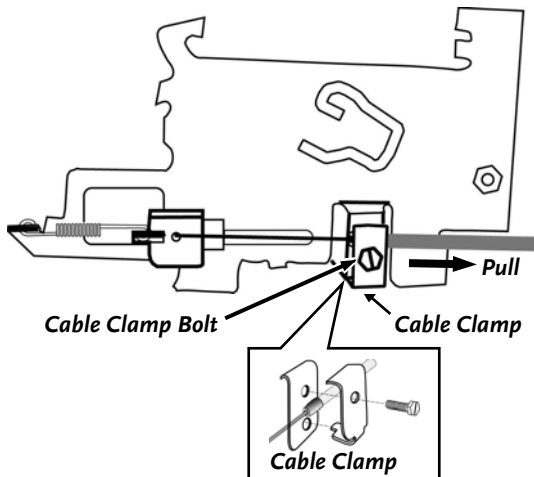

Figure 9
4. Using a Blade Screwdriver or 5/16" Nut Driver, loosen the Throttle Cable Clamp Bolt (**Figure 9**) and slip the Cable Sheath behind the Clamp.